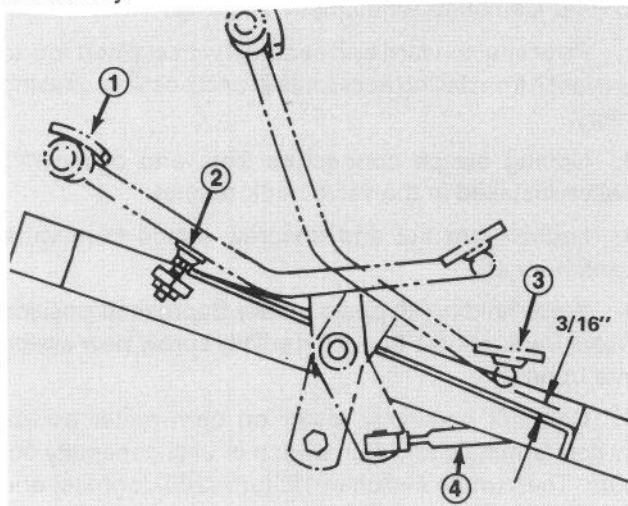

Figure 46
## ADJUSTING TRACTION PEDAL (Fig. 46)
2. Check distance between bottom of pedal and footrest as shown in Fig. 46. Distance should be approximately 3/16". If distance is greater or less than 3/16" dimension, an adjustment to the traction control rod is required.
(Fig. 46)